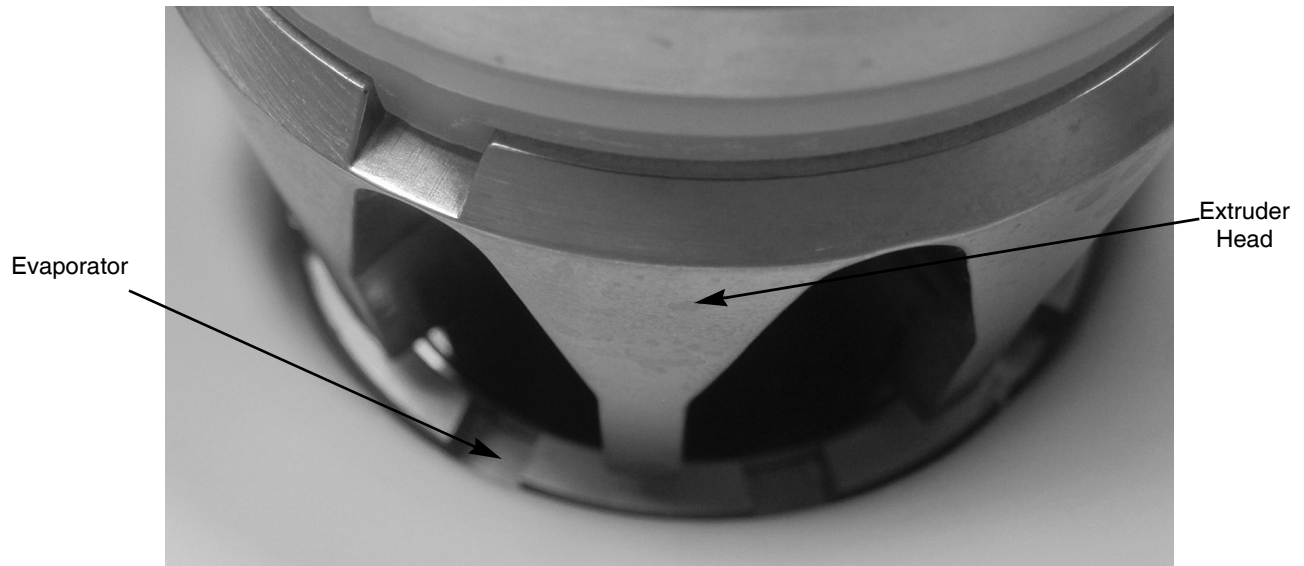

Figure 28.
2. When the auger is lowered into the evaporator, rotate the auger to engage the motor drive shaft, see Figure 28.